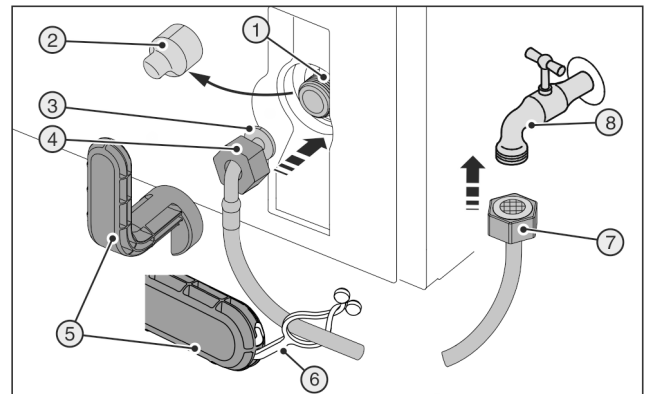
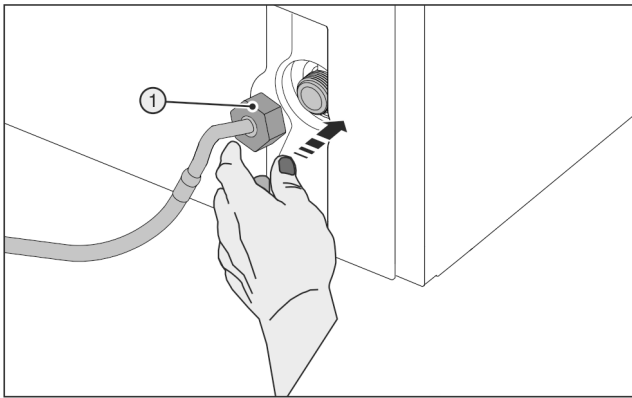

Fig. 23
Fig. 24
Broken auxiliary tool *Fig. 23 (5)*.
- ▶ Only use an auxiliary tool *Fig. 23 (5)* at room temperature.
- ▶ Remove the cover *Fig. 23 (2)*.
- ▶ Easy to fit: Place the straight end of the hose *Fig. 23 (7)* to the left on the floor.
- ▶ Slide the nut *Fig. 23 (4)* over the angled end of the hose *Fig. 23 (3)* up to the end and secure.
► Position the nut Fig. 24 (1) carefully and screw it directly onto the thread with two fingers until it is seated securely.
► Tighten the nut Fig. 24 (1) clockwise with the auxiliary tool Fig. 23 (5) until maximum torque is reached and the auxiliary tool Fig. 23 (5) overtightens.
► Screw the nut Fig. 23 (7) onto the stopcock Fig. 23 (8).
► Tighten the nut Fig. 23 (7) clockwise with the auxiliary tool Fig. 23 (5) until maximum torque is reached and the auxiliary tool Fig. 23 (5) overtightens.
► Turn the water supply stopcock Fig. 23 (8) on and check the whole water system for leaks.
► Hook the clip Fig. 23 (6) into the auxiliary tool Fig. 23 (5) and fix it to the stainless steel pipe to store it.